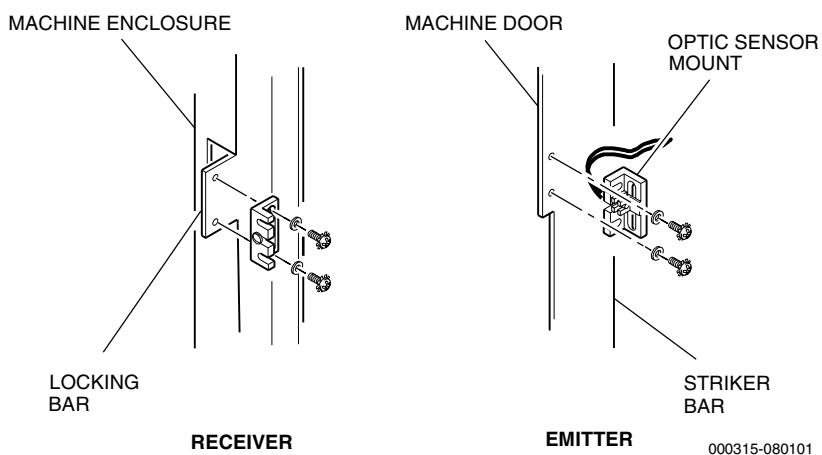

Figure 4-1. Optic Door-Open Sensor Receiver and Emitter
Figure 4-1 shows the location of the optic emitter and receiver. Refer to the applicable electronic diagrams and parts manual for the emitter/receiver sensor wiring.
- b. Position the optic sensor mount on the striker bar, so the optic points toward left side of the machine door (see Figure 4-1). Align the holes in the striker bar with the slots in the optic sensor mount.